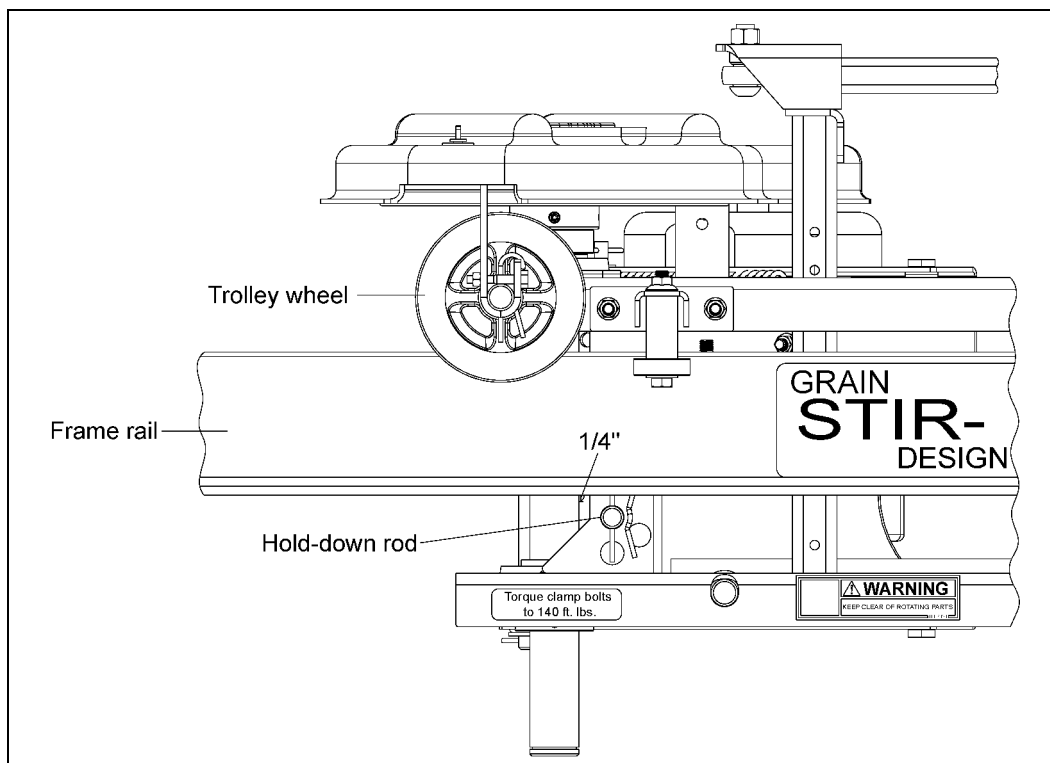

Figure 4S
4. Check that the trolley is level and that the hold-down rods and wheels are properly positioned. There should be approximately 1/4" between the top of the hold-down rods and the bottom of the frame rails. (See Figure 4S.)